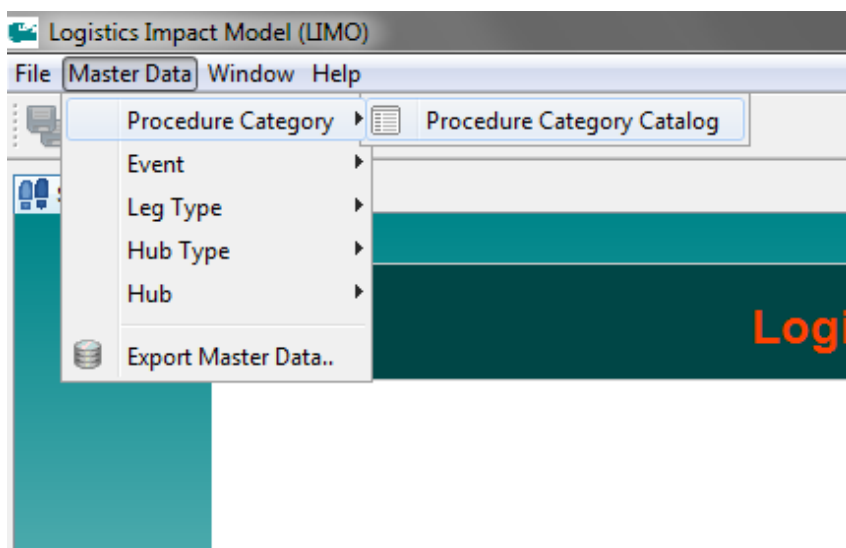

Figure 4: Initial configuration: Managing Master Data - Adding a new Procedure Category 1
- Under submenu Procedure Categories, click Procedure Categories Catalog. See Figure 4